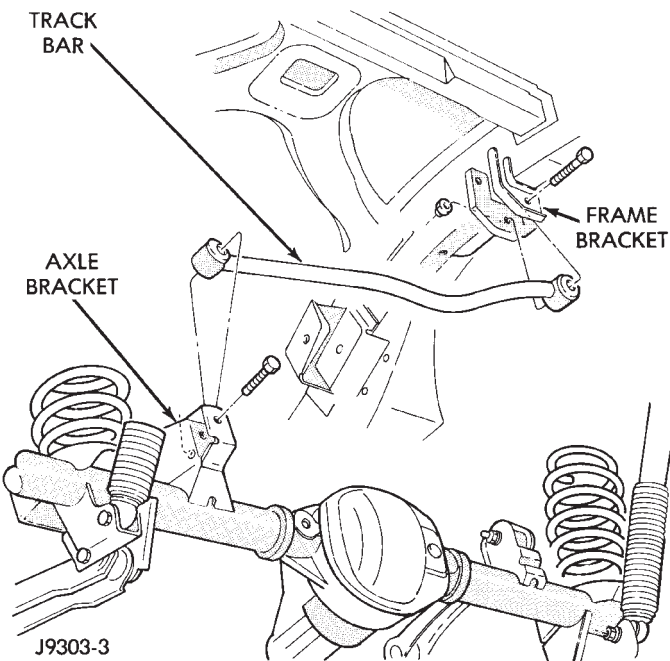

Fig. 5 Rear Track Bar
- (1) Raise and support the vehicle.
- (2) Remove the bolt and nut from the frame rail bracket (Fig. 5).
- (3) Remove the bolt from the axle tube bracket (Fig. 5). Remove the track bar.